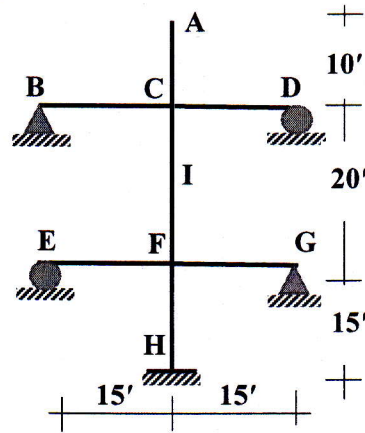

Fig. 13
- (b) What is the purpose of moment carryover (MC)? Evaluate that the MC factor is 0.5 for fixed ended prismatic members. (2.5)
- (c) Draw qualitative influence lines for shear force and moment at location *I* of the frame shown in Fig. 13. And place dead load $1k'$ and a point load $3k$ for maximum shear and moment. (5)